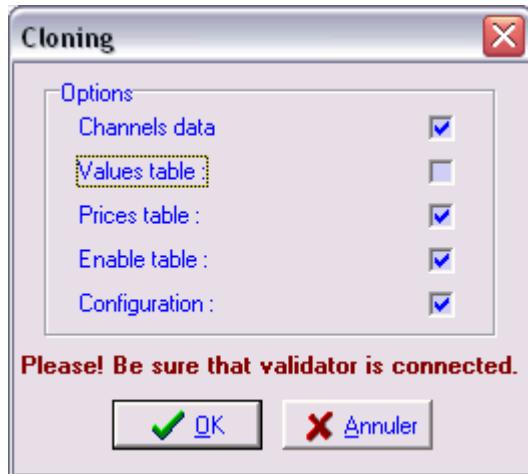

FIGURE 13
3. Choose data that you wish to clone in the window of cloning (Figure 13).
6. Choose data that you wish to clone in the window of Cloning (Figure 13).